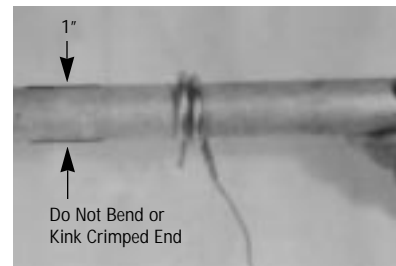

Figure 3
- A.** Bending or deforming sensing bulb will alter control calibration — requiring recalibration after installation. See CALIBRATION section, page 3. If necessary, Style 9 bulbs can be coiled to 1" I.D. (see Figure 3).